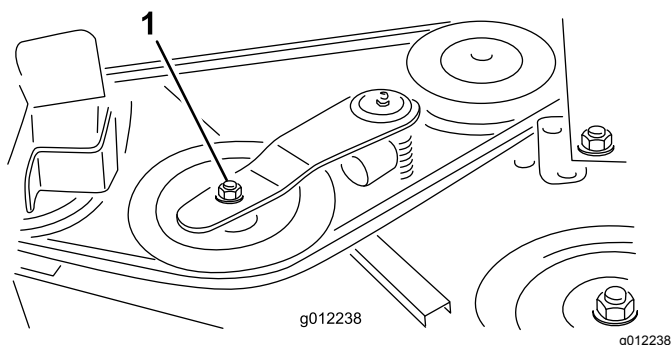
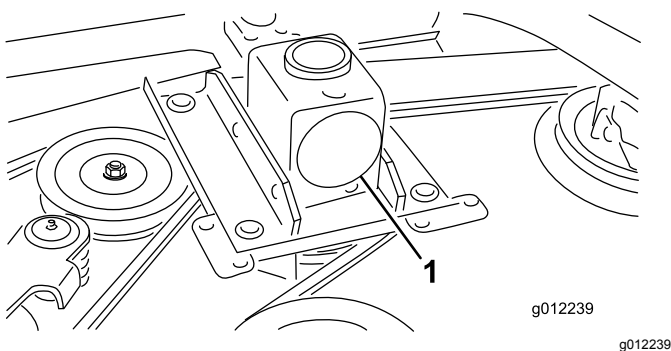

Figure 34
Figure 35
2. Using a torque wrench or similar tool, move the idler pulley (Figure 34) away from the drive belt to release the belt tension and allow the belt to be slipped off the gearbox pulley (Figure 35).